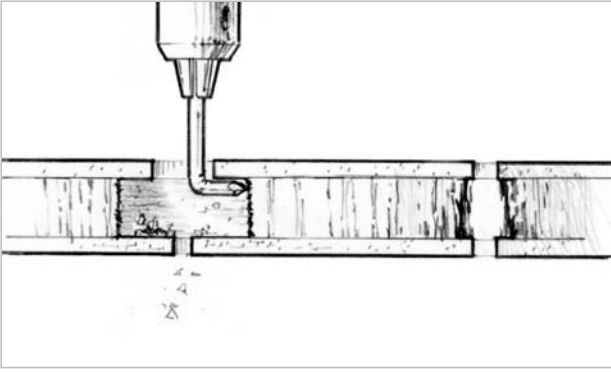

Figure 7-2 Remove about $\frac{1}{2}$ " (12mm) of core material around the hole with a bent nail or an Allen wrench chucked into a drill motor.
2. Clean out the fastener holes and remove a portion of the core around the hole. Re-drill holes with an oversized bit or enlarge holes with a round file to increase bonding area. Drill through the outer skin and core only. Remove about ½" (12mm) of core material around the hole with a bent nail or an Allen wrench chucked into a drill motor (*Figure 7-2*). The spinning nail or Allen wrench will pulverize the core material without damaging the skins, provided you are careful.